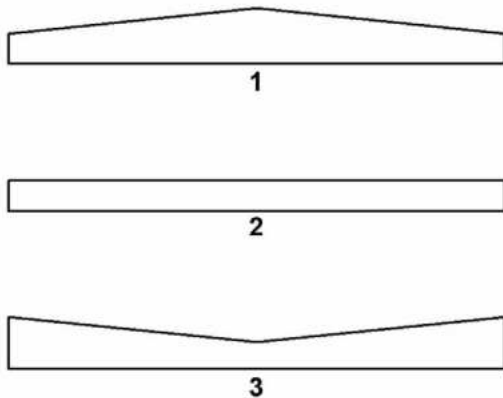

Figure 4-56. Crown Settings
- Positive crown is when the middle of the mat is raised to permit water to drain to each side. **(Figure 4-56)**
- Negative crown is the lower in the center of the screed plate, often used in an alley where drainage is necessary. **(Figure 4-56)**